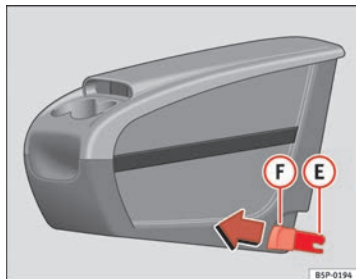
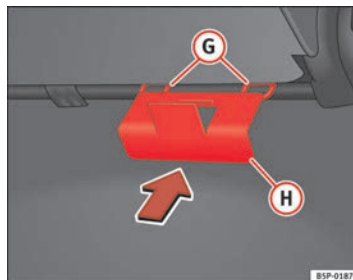

Fig. 113 Mobile storage compartment. Installation
Fig. 114 Mobile storage compartment mounting plate
- Fit the mobile storage compartment mounting plate (H) ⇒ fig. 114 from the inside of the vehicle, through the rear section of the seat. It should be fitted between the backrest and the seat, in the central seat area.
- Set both mounting pieces together **(E)** ⇒ page 150, fig. 113, with both mounting rings **(G)** ⇒ page 150, fig. 114 and press hard until both the clips completely connect with the rings.
- Pull each of the buttons ⇒ page 150, fig. 113 **(F)** on the clips (red buttons) forwards, until they snap out of place.